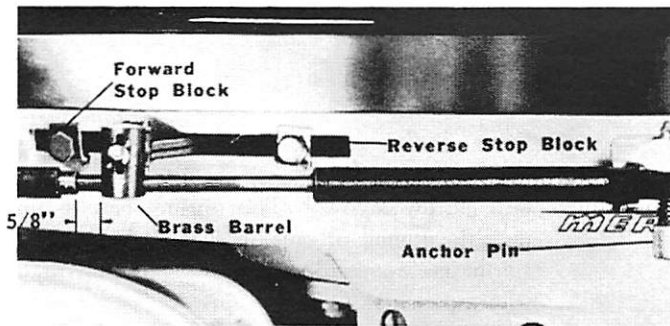

Figure 11. Throttle Stop Adjustments
3. Tighten stop block in bottom cowl so that any forcing of lever will not spring carburetor linkage. (Figure 11)
2. Then tighten stop block against lever in bottom cowl to limit further movement of lever. (Figure 11) (Note: Reverse RPM can be decreased on lighter boats.)
1. Adjust brass barrel so that it is $\frac{5}{8}$ " from end of brass sleeve on engine end of control cable. (Figure 11)